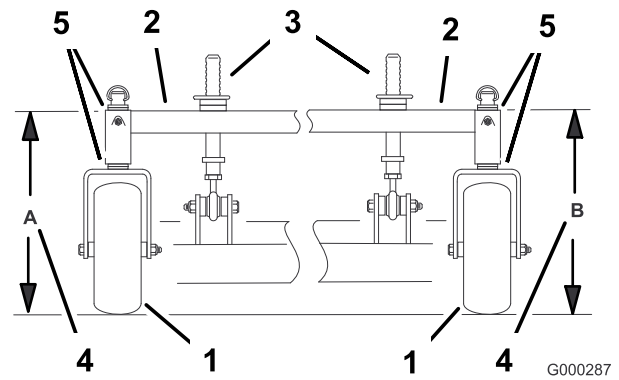

Figure 64
4. Measure carrier frame height at location **A** (Figure 64).
5. Measure carrier frame height at location **B** (Figure 64).